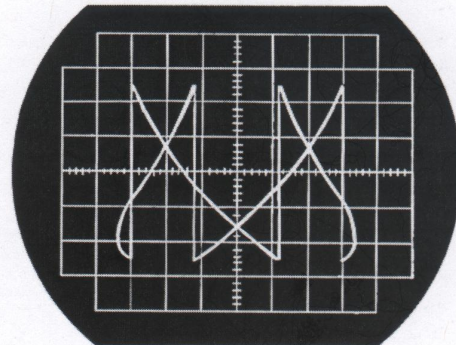

Fig. 10-5 Lissajous' Figure
36. Adjust VR₃ so that a stationary Lissajous' figure (see Fig.10-5) appears on the oscilloscope screen.